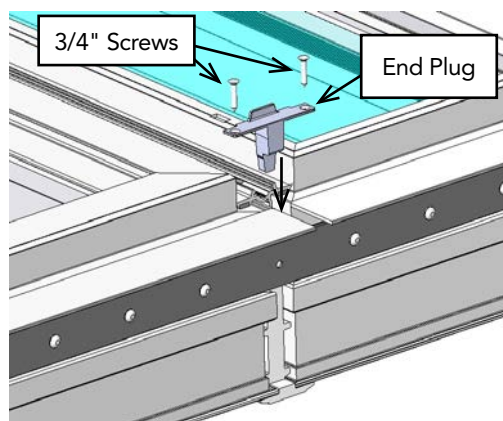

Figure 22
- 26.** Fill the cavity and frame areas where the plug fits with caulk (**Figure 16b**). Place a supplied end plug against the exterior mullion on both ends as shown, between the gap in the frames (**Figure 22**). Start the end plug at an angle and push the down firmly onto the frames, making sure the caulking in the grooves makes a good seal between the frames and the end plug. Secure the end plug with #6 x $\frac{3}{4}$ " screws.